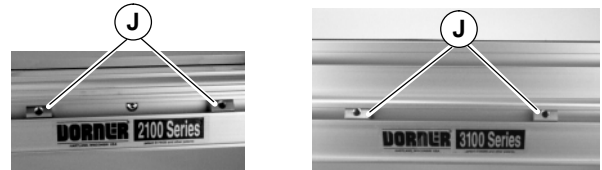

Figure 8
2. Install T-bars (J of Figure 8) in 2100 Series, 2200 Series or 3100 Series conveyor T-slots.